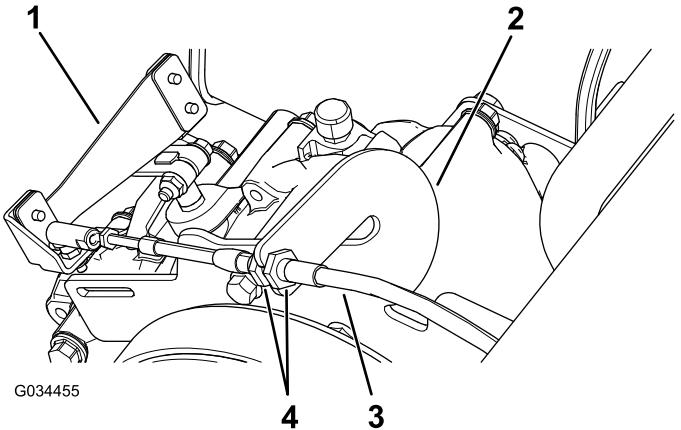

Figure 57
1. Loosen the jam nuts on the gear-shift cable and adjust them as necessary (Figure 57).
2. Test the gear-shift position by rotating the gear-shift selector to the 3 different positions and check to see if the shift lever (Figure 57) shifts properly when shifting the gears; refer to Gear-Shift Lever and Gear-Shift Indicator \(page 12\).